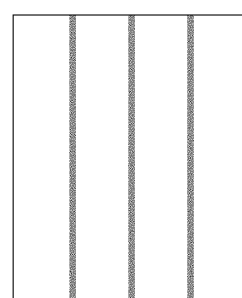

Fig.8-2
Background is smeared due to toner spread as shown in print sample \(1\) of Fig.8-2.
There is missing or peeling toner found in the image at the edge as shown in the print sample \(2\) of Fig.8-2.
Uneven optical density appears periodically in the horizontal direction on the printed image as shown in print sample \(3\) of Fig.8-2.
Light print occurs on the right or left hand side of the image as shown in print sample \(4\) of Fig.8-2.
Banding shadows of different optical density appear due to wrinkle, image migration and color misregistration occurring on the print paper as shown in print sample \(5\) of Fig.8-2.
Vertical white line appears in the specific color area when test-printed in the four color mode (Stripe Mode), as shown in **print sample (6) of Fig.8-2**.
Vertical white line appears from the leading edge to the trailing edge of the printed image as shown in print sample \(7\) of Fig.8-2.